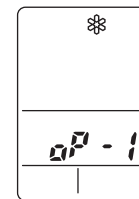

Fig. 59b
- d) ✻ appears and "oP-1" blinking in the remote controller clock display area. (Fig. 59b)